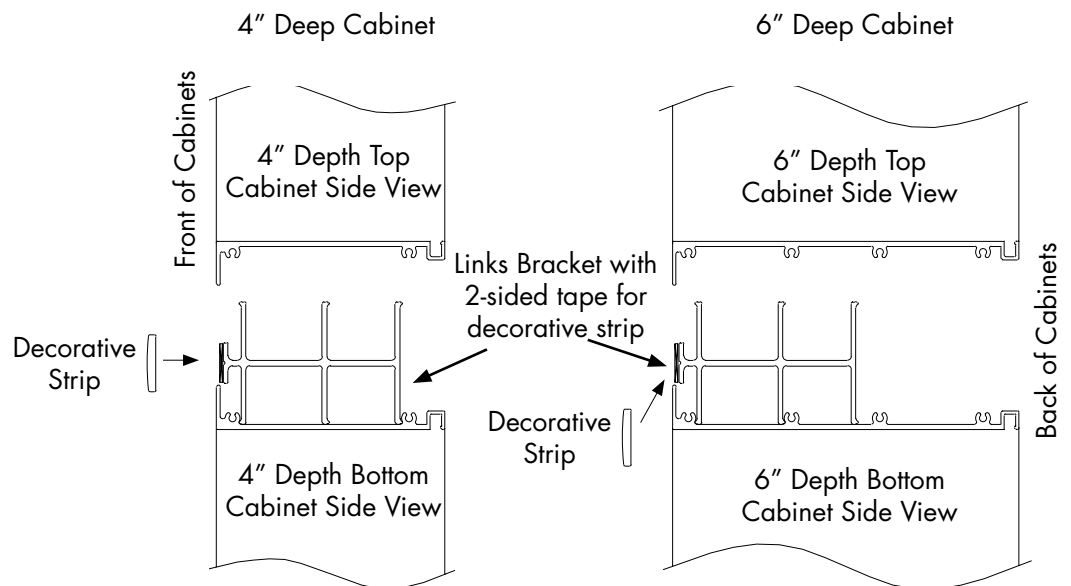

FIG 2
4. Carefully place bottom cabinet on blanket or carpet on the floor. Make sure hinges are on correct side of opening for left hand or right hand operation. Snap the links bracket into place on top of bottom cabinet as shown. Bracket should "snap" and be fit securely (Fig 2).
5. Place top cabinet on top of bracket and "snap" in place (Fig 2). Cabinets should be securely attached to one another.